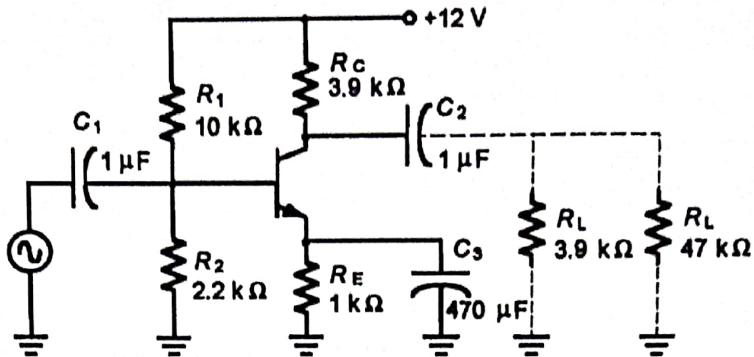

Figure 17.1
1. Build the circuit of Figure 17.1, without connecting a load resistance at this time.
- What would be the gain of the amplifier in Figure 17.1 if the value of R_C were changed to $5\text{ k}\Omega$? (Assume no change in quiescent operating point.)
- What should be the normal AC voltage read at the emitter of the transistor amplifier of Figure 17.1? $\underline{335\mu\text{V}} \text{ (Peak to peak)}$
- If the amplifier of Figure 17.1 were exactly midpoint biased ($V_{CZ} = 6\text{ V}$), what would be the maximum undistorted peak output voltage swing?
- If capacitor C_3 in Figure 17.1 shorted, the transistor would likely be "ON" switch